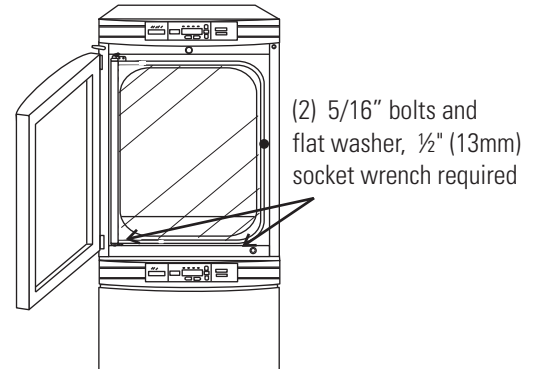

Figure 1-7. Align Slots and Bolts
- Align the sides of the top unit and bottom unit. Slide the top unit forward until the slots in the base of the top unit align with the 5/16"-18 stacking bolts in the exterior top of the bottom unit (Figure 1-7).
8. From the unit front, secure the base of the top unit to the exterior top of the bottom unit by tightening the 5/16-18 stacking bolts using a 1/2" (13 mm) wrench or suitable tool. Refer to Figure 1-7.